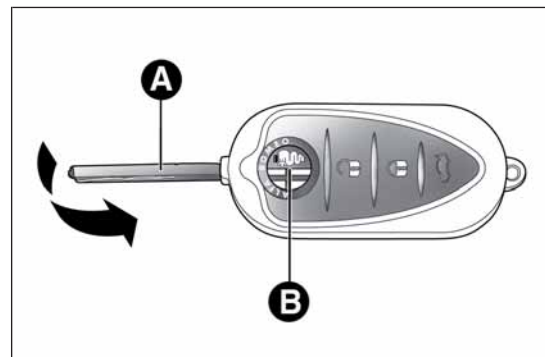

fig. 16
The metal insert A fig. 16 operates:
**Press button B fig. 16 only with the key away from your body, especially your eyes and from objects which could get damaged (e.g. your clothes). Do not leave the key unattended to avoid the button being accidentally pressed while it is being handled, e.g. by a child.**